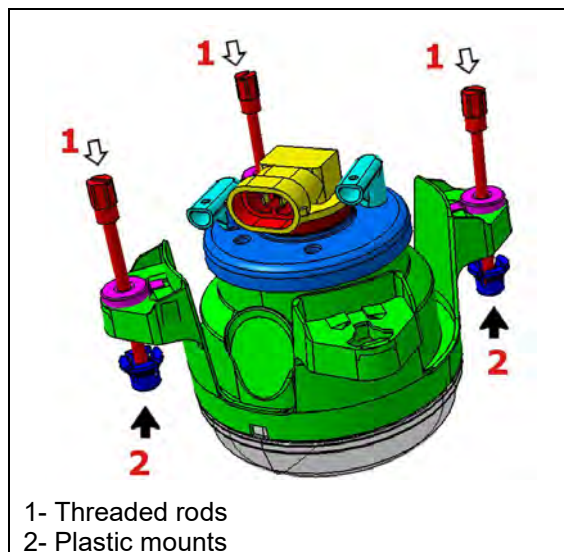
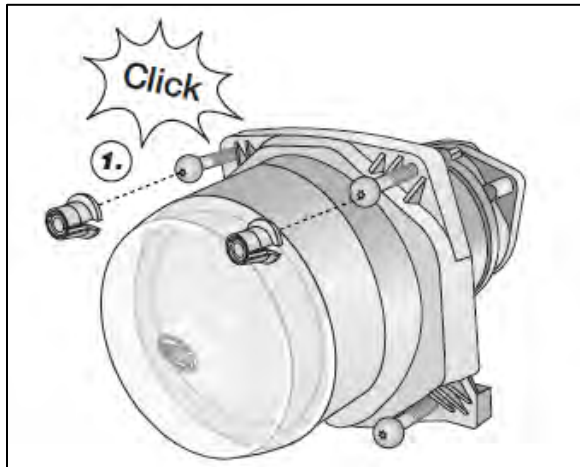

FIGURE 76: HEADLAMP MODULE
FIGURE 80
5. Install three new threaded rods (item 1, Figure 76) on the new headlamp module.
7. Snap new plastic mounts on threaded rods (3x) (item 2 in Figure 76 & Figure 80). You will hear or feel a click.